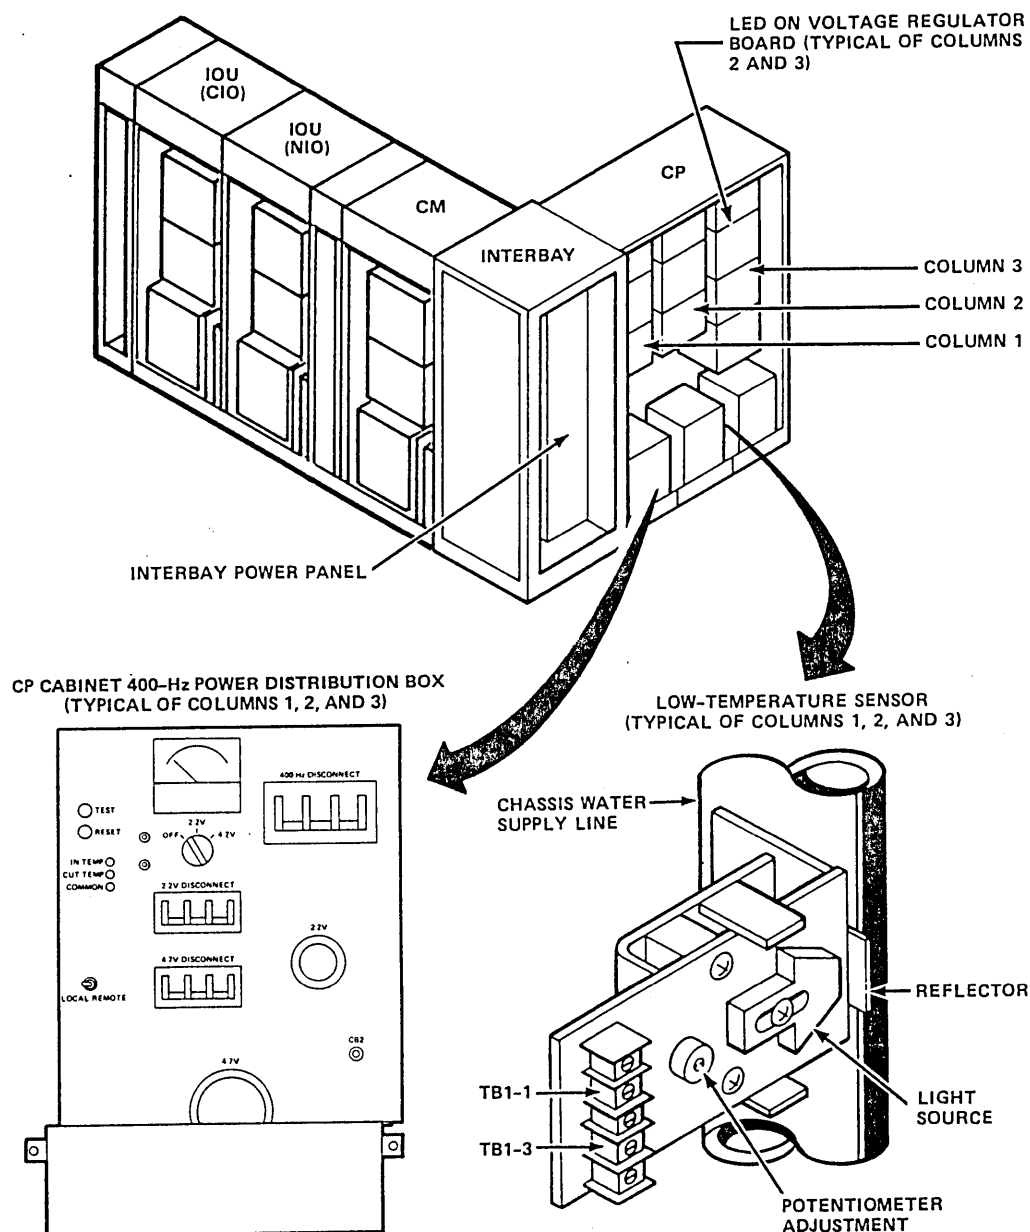

Figure 4-29. CP Power Controls and Adjustments
- ___ 5. Press and release RESET switch on front of power distribution box (figure 4-29).